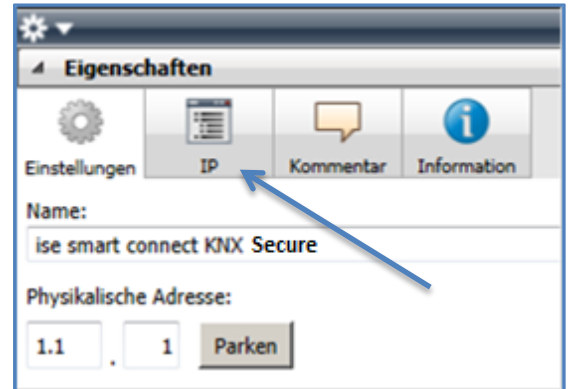

Figure 25: Device properties dialog of the ETS
2. Display the properties of the device in the sidebar of the ETS as shown in Figure 25.